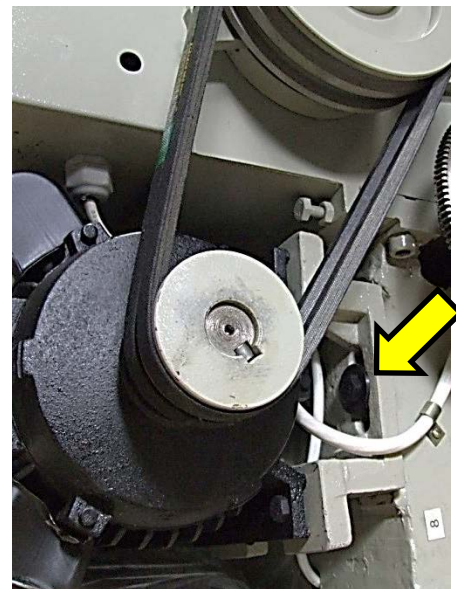

figure 55
- 2) Loosen the two bolts as indicated by the arrow in (fig. 55).